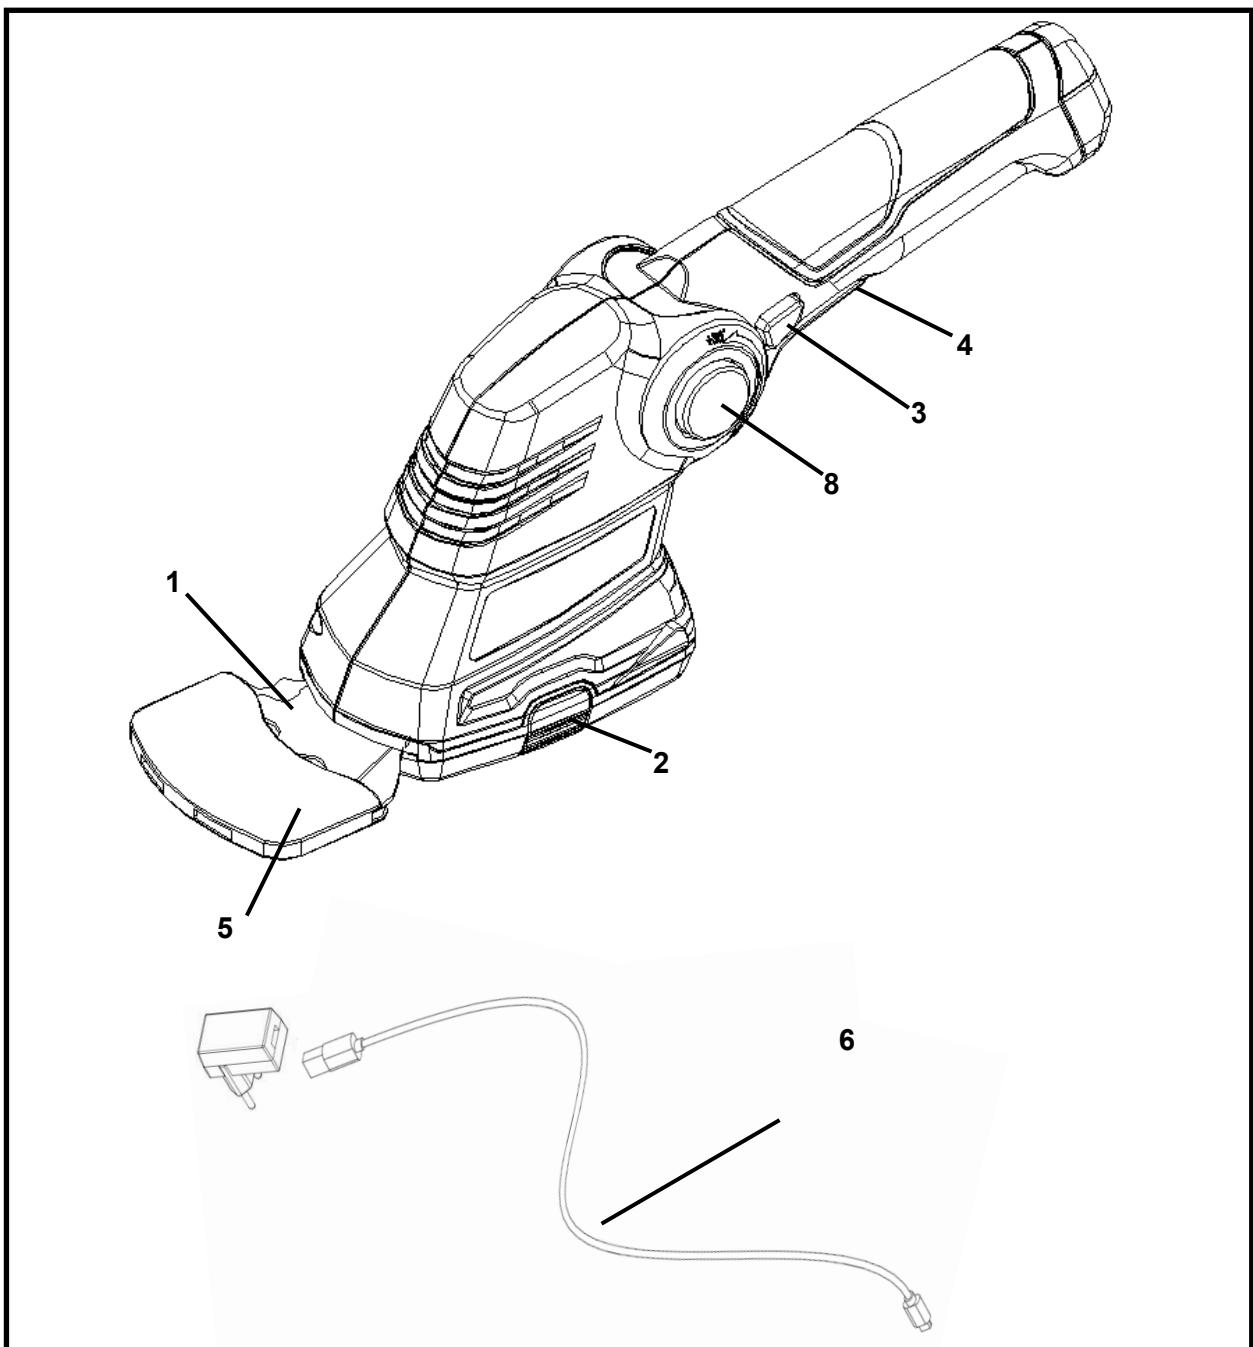

Fig. 1
2.1 Layout (Fig. 1)
The area to be cut must first be cleared of stones and other solid objects. The safety lock-off (Fig. 1/ Item 3) prevents the tool being started unintentionally. Activate the safety lock-off (Fig. 1 / Item 3) by pushing it forward and pressing the ON/ OFF switch (Fig. 1 /Item 4) at the same time. To switch off the tool, let go of the ON/OFF switch (Fig. 1 / Item 4).